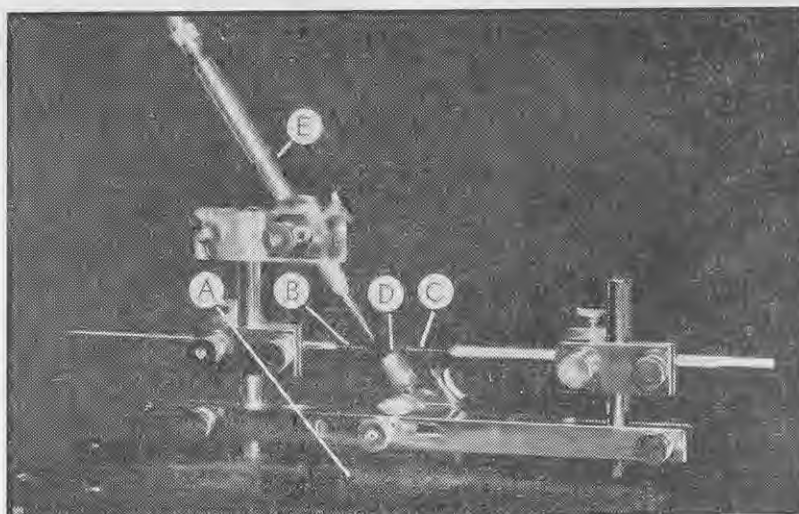

Fig. 6—The insemination apparatus. A: Stand. B: Sting hook. C: Ventral hook. D: Queen holder. E: Syringe.
**The manipulating apparatus** consists essentially of a heavy stand on which are mounted the queen holder, the syringe, and the holding hooks in such a way that they can be moved and adjusted easily (Fig. 6).